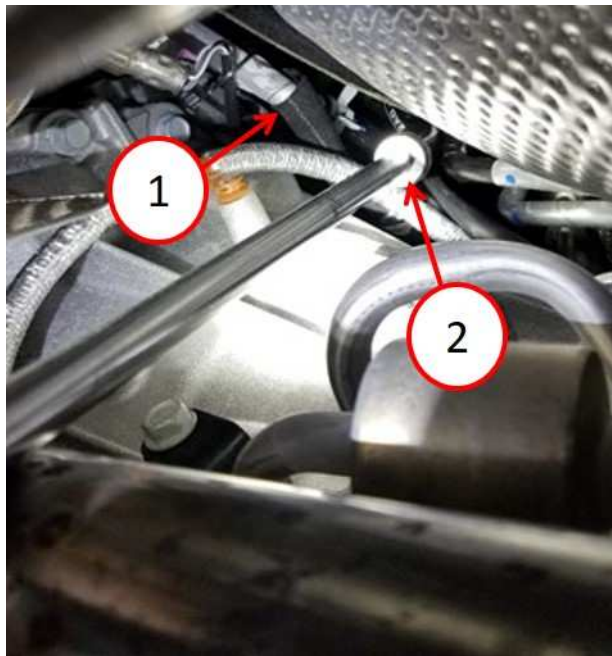

Fig. 8
13. Push the transmission oil heater tube forward to increase the clearance between the heater coolant return tube and transmission oil heater tube clamp (Fig. 8) .